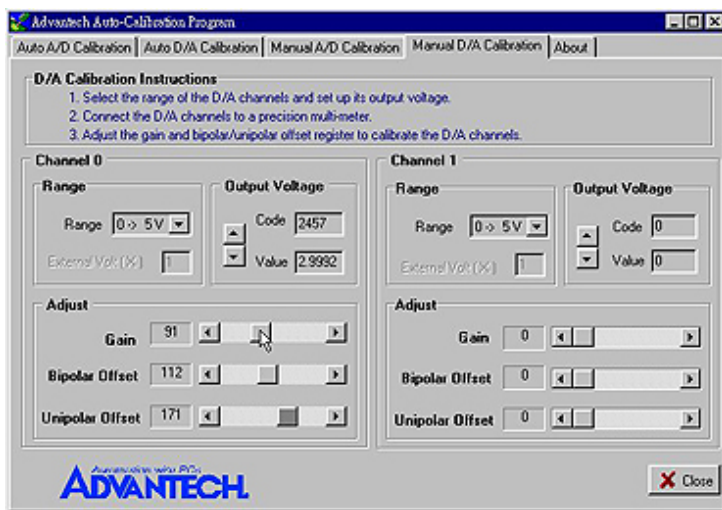

Figure 6-17: Adjusting registers
Step 3: According to the difference between the output voltage from D/A channel and the value in the multimeter, adjust the gain, bipolar offset and unipolar offset registers (Fig. 6-17)